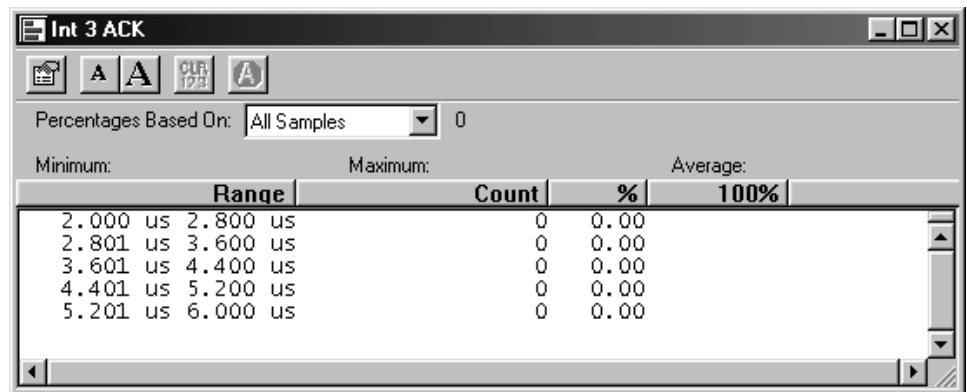

Figure 4-50: The Int 3 ACK Histogram window
9. Adjust the column size in the new Int 3 ACK Histogram window to match Figure 4-50 and adjust the magnitude zoom of the window by clicking on the 100% column and select 60%.